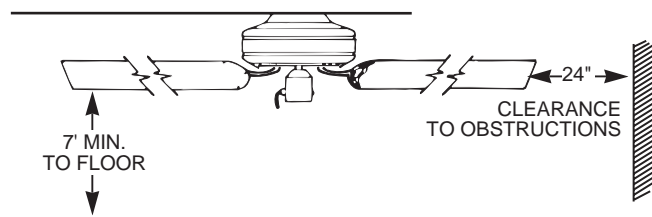

FIGURE 1
**C.** The fan blades must be mounted at least 7' above the floor. For maximum efficiency, there should not be any obstruction (walls, posts, etc.) within 24" of the blade tips. See Figure 1 for mounting distances.